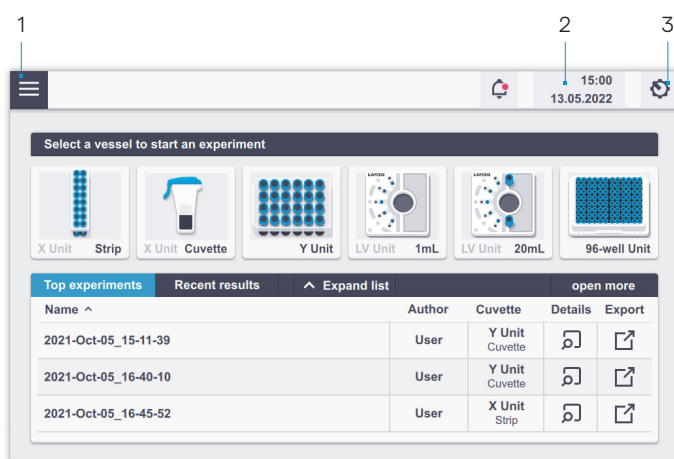

Figure 2.4: Main screen (home screen) elements and general icons.
Turn on the system using the main power switch at the rear of the Core Unit. The blue LED at the front of the Core Unit will be lit. Then press the power button at the front of the Core Unit. The system will boot — this process may take a few moments. Once the start-up procedure is complete, the 4D-Nucleofector® Graphical User Interface (touch screen) will display the software's main screen. The main screen (home screen, Figure 2.4) displays all vessel types that can be used with the respective functional units that
The 4D-Nucleofector® System is operated via an 8-inch touch screen display and is controlled by intuitive software. Figure 2.4 and Table 2.2 will familiarize you with the functions of the touch fields and the basic features of the operating software.
3. You can load predefined experiments by tapping on the accordion menu (Figure 2.4) and select “Experiments”. Tapping on “Open” will show you the Experimental set up screen.